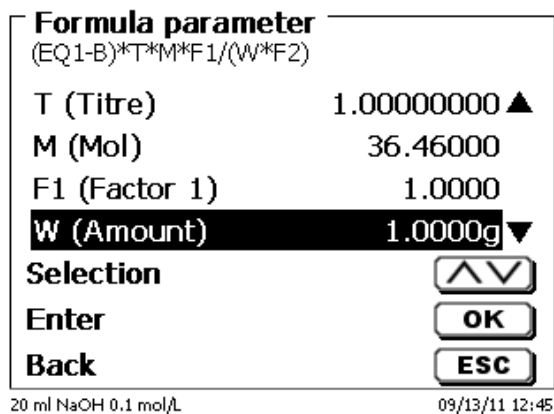
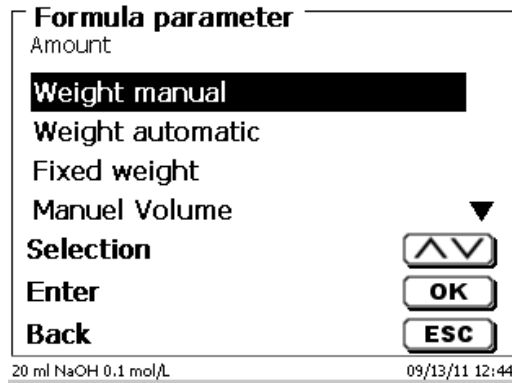

Fig. 111
Fig. 112
The Sample Quantity (W) item (Fig. 111) is used to select whether one is wishing to use a sample weight or a sample volume for titration or solution preparation (Fig. 112).